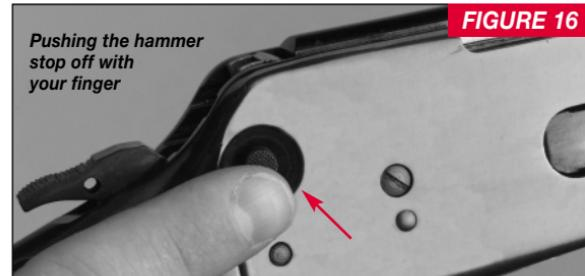

FIGURE 16
2. Place the manual hammer stop in the “off” position (Figure 16) by pushing it from right to left.